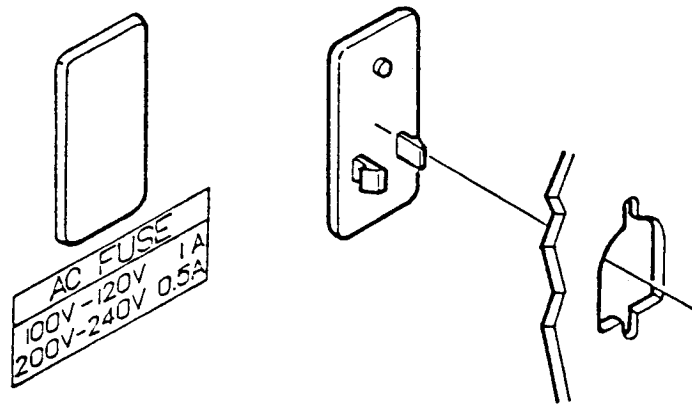

Figure 1
- (1) Remove the AC power cord plug from the AC jack, and remove a backup battery from the battery compartment in the rear panel.
- (2) Remove the two screws affixing the carrying handle on the right side of the case, and remove the handle.
- (3) Remove the two screws from the left side, and two screws from the bottom of the case, and remove the bottom cover.
- (4) Remove the small plastic cover from the rear panel to expose the DC Jack cutout, as shown in Figure 1.